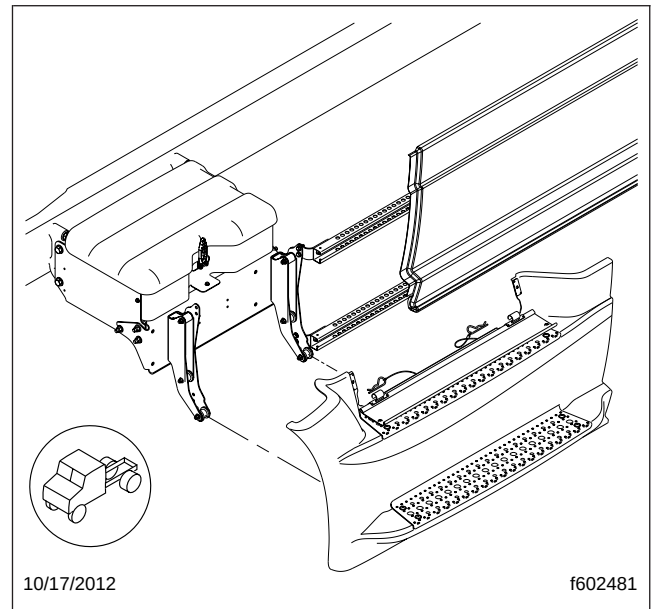

Fig. 2, Latched Forward Fairing Removal
1. To remove, lower the kickplate door, pull out the latch pins, and release the latches. Pull the fairing slightly up and outward. See Fig. 2.